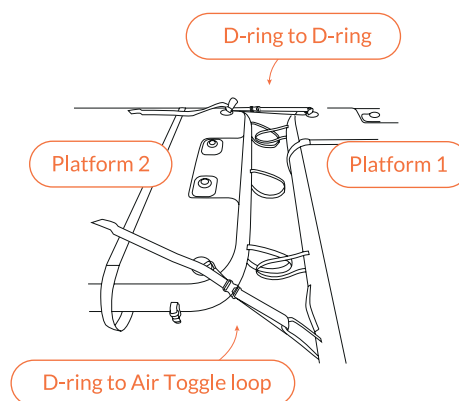

Fig 97 – Both connection straps attached
4. Secure the opposite D-ring of Platform 2 to the D-ring of Platform 1 with the connection strap. Then secure the other connection strap from the D-ring of Platform 2 to the Air Toggle loop on the side of Platform 1 (Fig 97). It is important to do this before you inflate the Air Toggle.